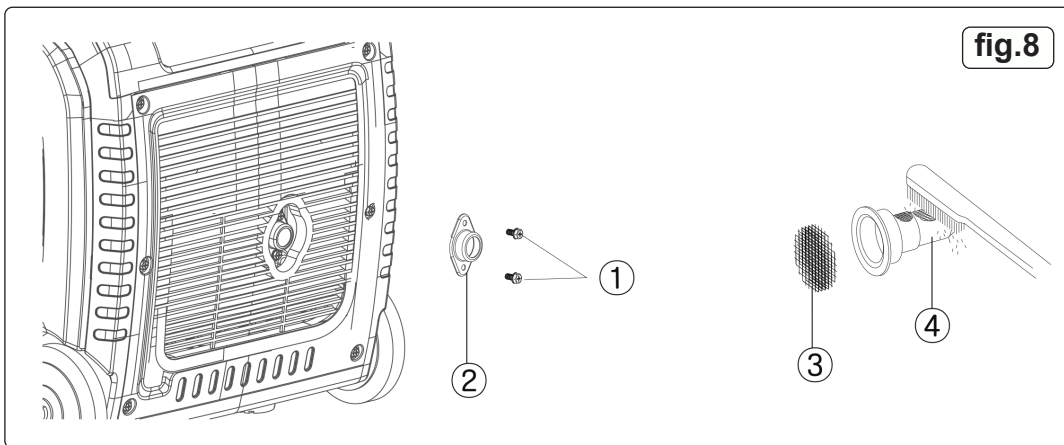

fig.8
8.11. MUFFLER SCREEN AND SPARK ARRESTER FIG.8